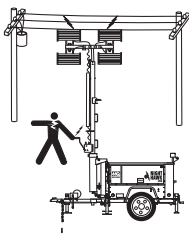

**Figure 15. Ignition Key Switch (Lombardini/Deutz Engine)**
2. Insert the ignition key into the ignition key switch (Figure 15). Turn the ignition key clockwise one click to the ON position. The preheat indicator lamp will light. Wait for this indicator lamp to go OFF. When the indicator lamp goes OFF, the glow plugs have been preheated and the engine can now be started.